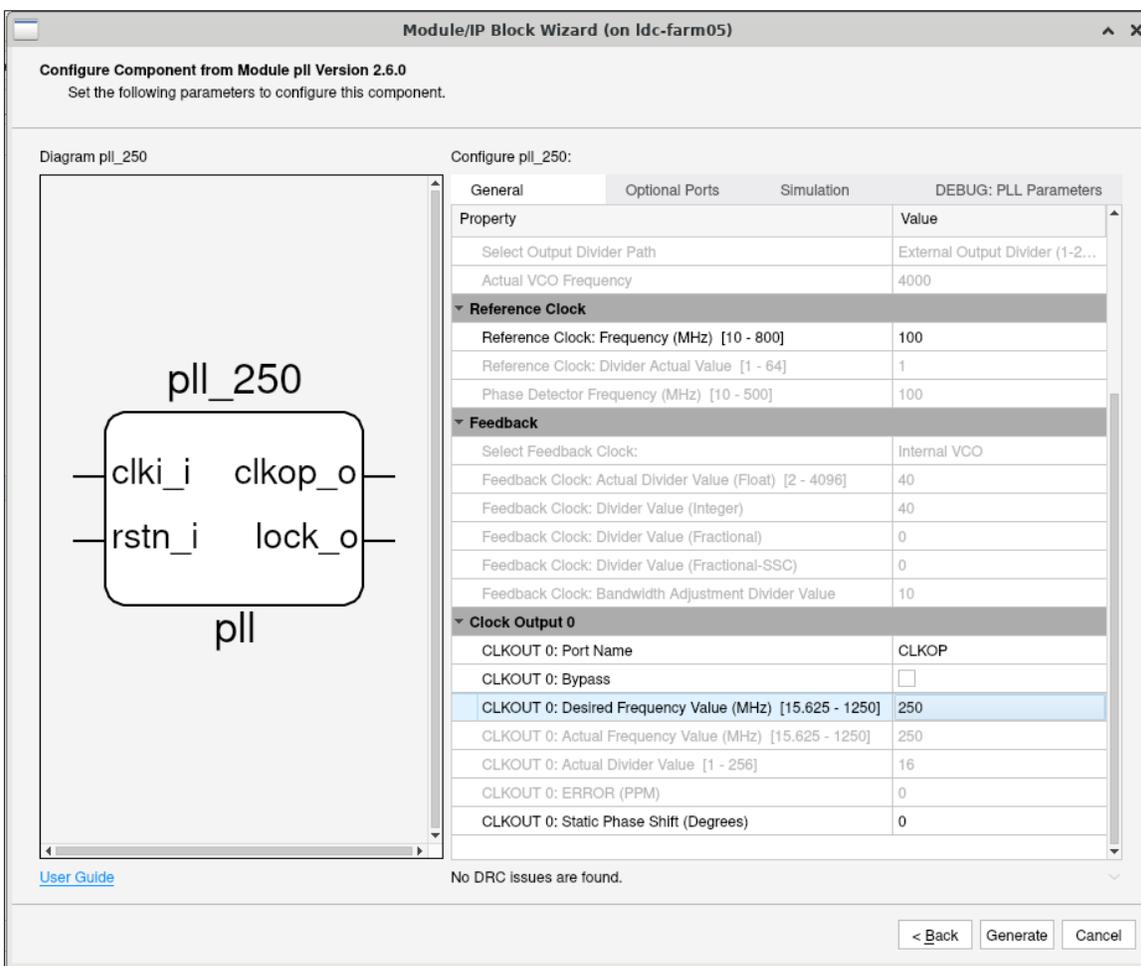

Figure 7.14. PLL IP Configuration for Input Clock of 100 MHz
- For sys\_clk\_i, refer to Table 2.1 on selecting the frequencies for Gen1, Gen2, Gen3, or Gen4 data rates. You can use a PLL IP to create these clocks. Refer to the PLL Module IP User Guide \(FPGA-IPUG-02063\) for instantiation and generation of PLL IP. Figure 7.14 shows the IP configuration for Gen 4 rates if using an input clock of 100 MHz.